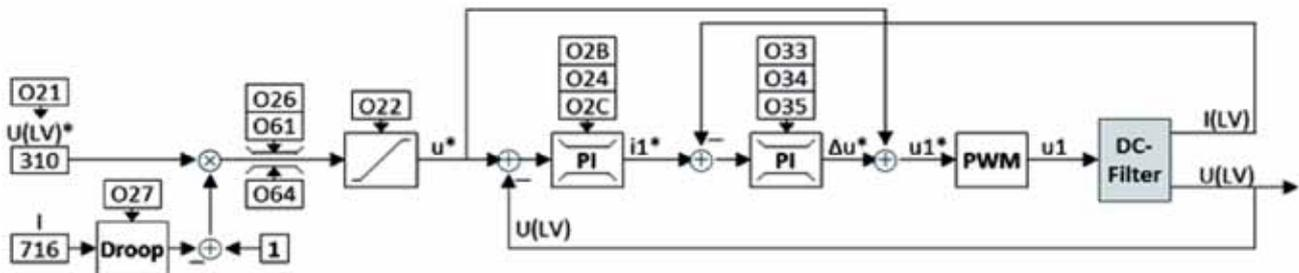

Fig. 25 Block diagram of DCU low side DC-voltage controller U (LV) - Cascaded U+I mode.
5.1.2 DCU low side DC-voltage controller U (LV) - Cascaded U+I mode
The block diagram of the DCU low DC-voltage U (LV) controller in Cascaded U+I is shown in Fig. 25.